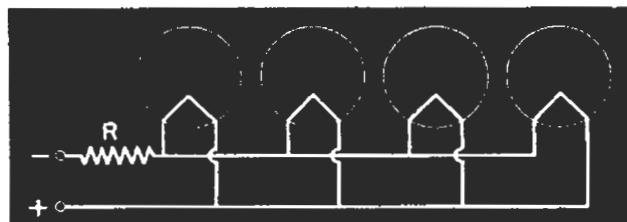

FIG. 23. Battery tube filaments are frequently connected in parallel.
► The filaments are generally connected in parallel to an A battery which furnishes about the correct voltage. If this voltage is too high, a series resistor is used to cut it down. Fig. 23 shows such a circuit; resistor R is used to drop the voltage to the correct amount. The difference in voltage between that required by the tubes and that furnished by the battery is the voltage which the